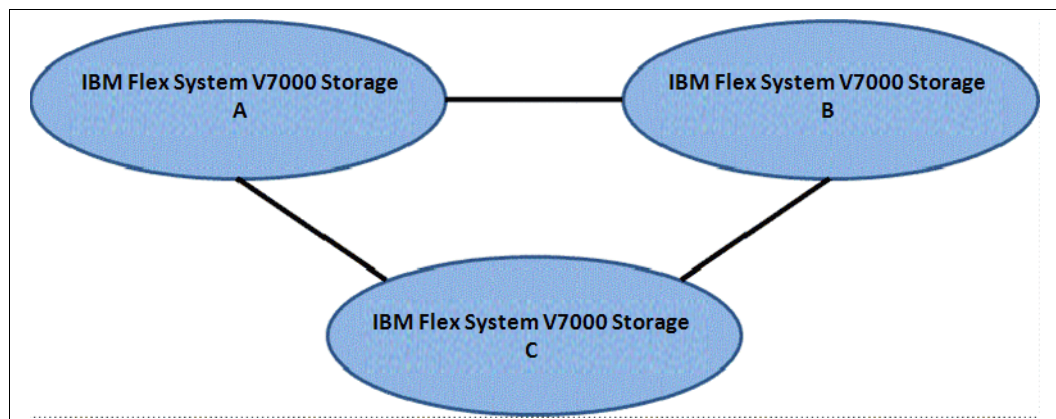

Figure 9-57 Triangle topology for IBM Flex System V7000 Storage Node
- ▶ Triangle topology (Figure 9-57)